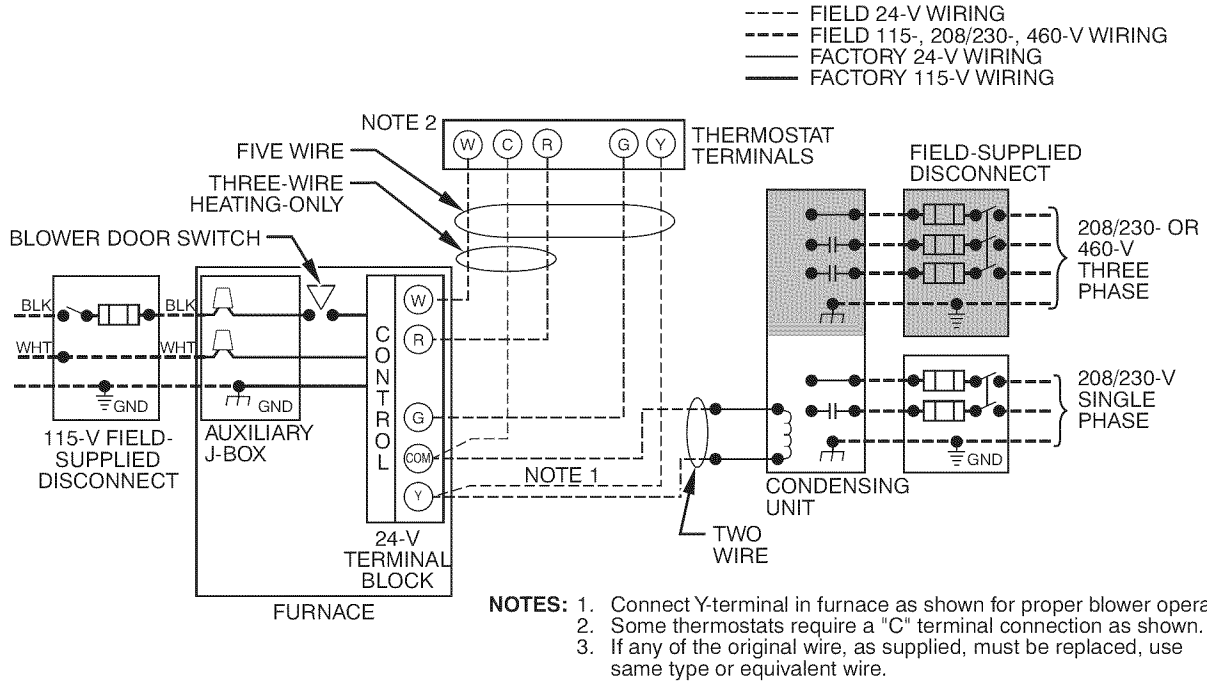

Fig. 34 - Typical Single-Stage Wiring Diagram
See Fig. 34 for field wiring diagram showing typical field 115-v wiring. Check all factory and field electrical connections for tightness.
7. Connect field power and neutral leads to furnace power leads as shown in Fig. 34.
6. Connect power cord power and neutral leads to furnace power leads as shown in Fig. 34.
5. Connect field power and neutral leads to furnace power leads, as shown in Fig. 34.
Make field 24-v connections at the 24-v terminal strip. (See Fig. 35.) Connect terminal Y/Y2 as shown in Fig. 34 for proper cooling operation. Use only AWG No. 18, color-coded, copper thermostat wire.